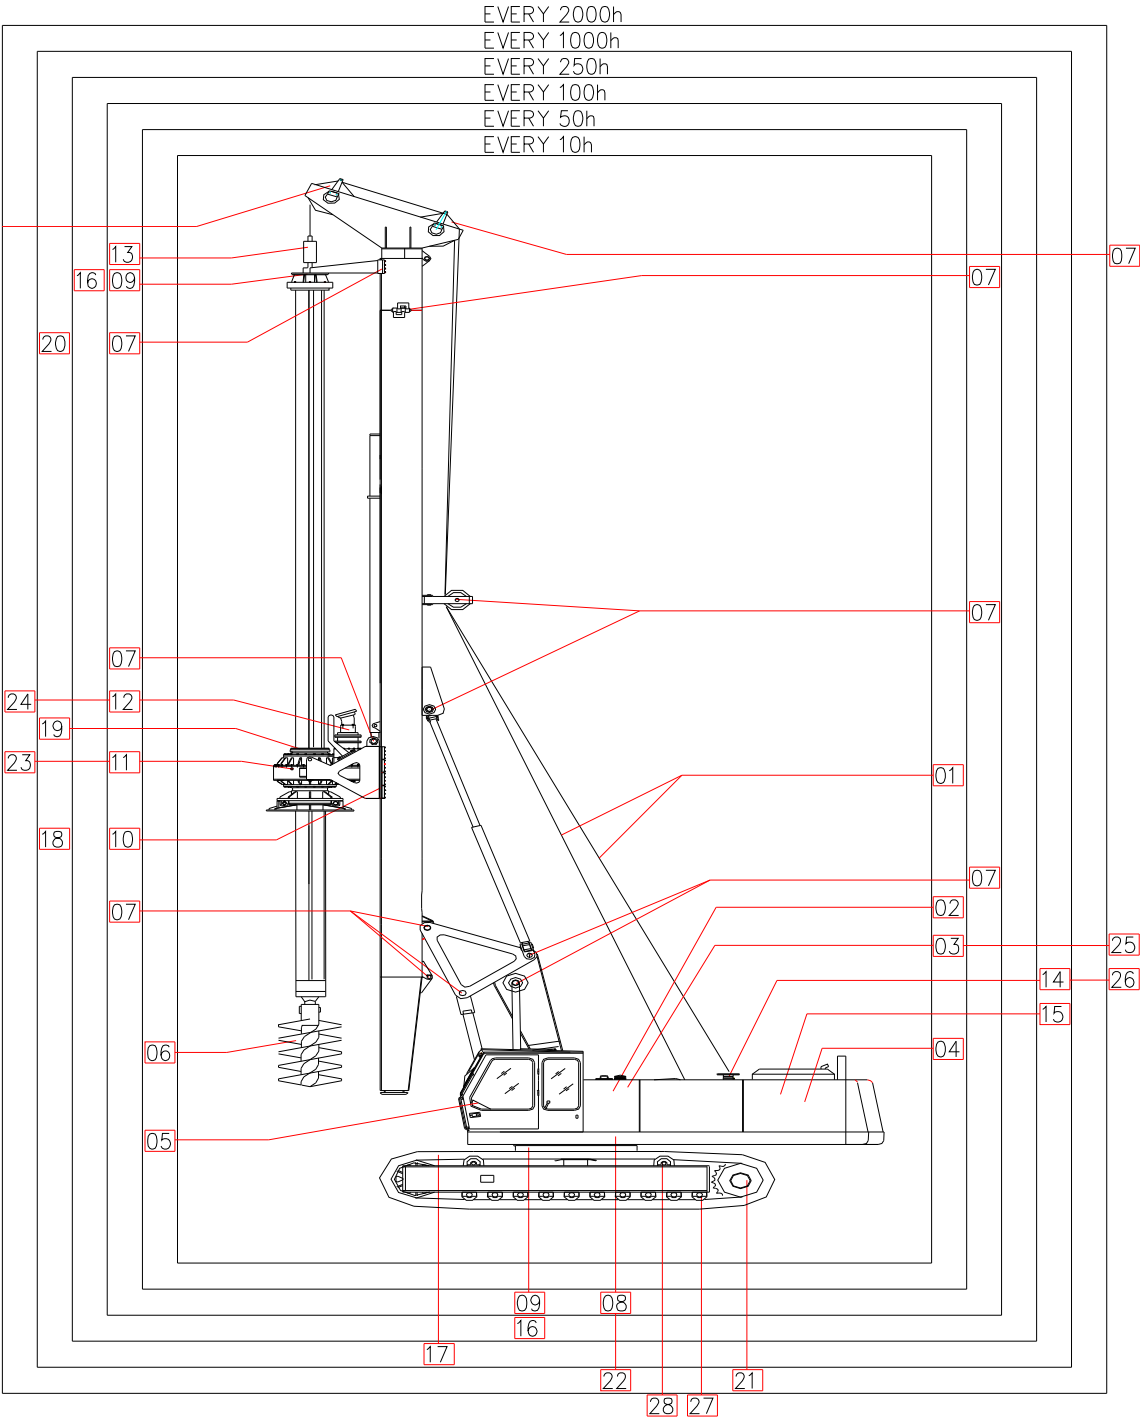

Fig. 30
① clean drill rig, keep traveling components clean;
② Grease hinges, guide;
③ drain coolant, take battery off;
④ Put drill rig in a dry place and cover with tarp;
⑤ Run drill rig on a monthly basis;
8) Maintenance Chart(Fig.30)